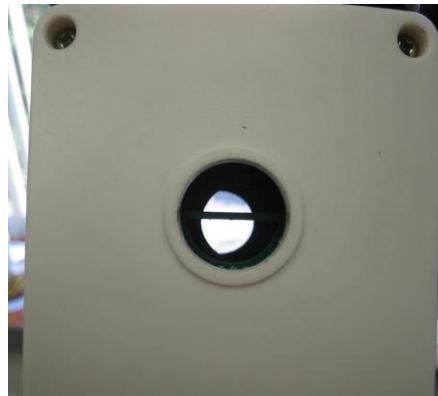

Figure 4. SmartEQ™ with integrated polar scope illumination LED
1. If there is a bar in the middle of the polar alignment opening as shown in the Figure 4, the SmartEQ mount already has an illumination LED as part of the main control board. If you can't see through the polar alignment opening, it is blocked by the DEC axle. Please turn the mount on and use the UP or DOWN arrow key on the hand controller to rotate the DEC axle until you can see through the opening.